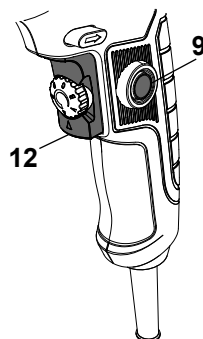

Fig. 8
- > Switch the product on by pressing the on/off switch (12) (Fig. 8).
- > Switch the product off by releasing the on/off switch (12) (Fig. 8).
- > Switch the product on by pressing the on/off switch (12) and hold it in position (Fig. 8).
- > Press the lock-on button (9) to lock the on/off switch (12) (Fig. 8).
- > Release both switches. The on/off switch (12) is now locked-on for continuous use.
- > Depress and release the on/off switch (12) to switch the product off.